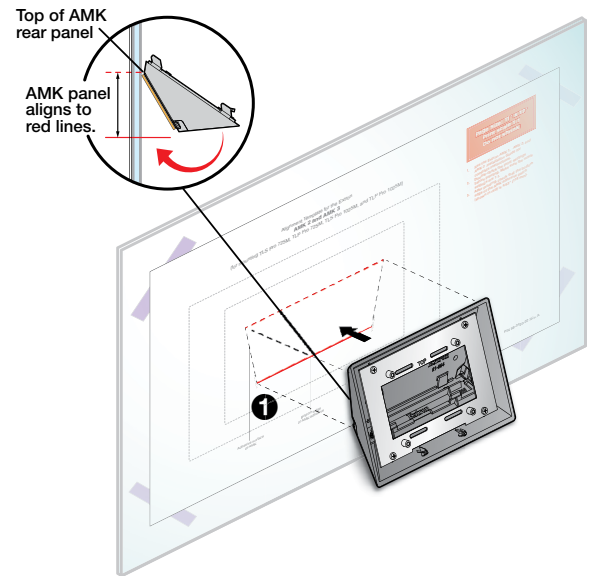

Figure 4. Attaching the AMK to the Glass
- Do one of the following (see figure 4, inset):
- Press the AMK firmly against the glass (see figure 4, ①).